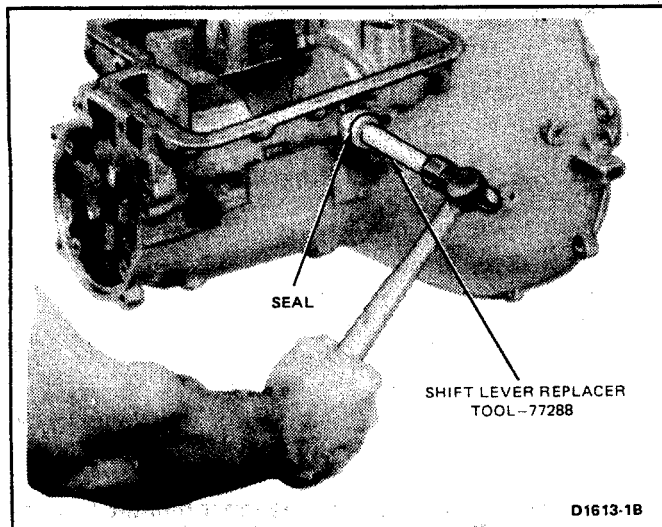

FIG. 31 Installing Manual Lever Seal
- Dip the new seal in transmission fluid and install it in the case using TOOL-77288 as shown in Fig. 31.